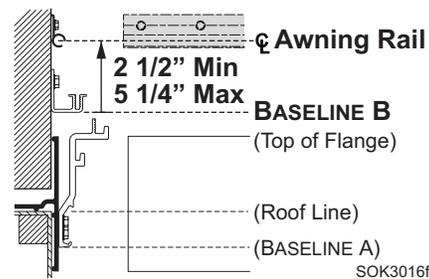

Figure 6. Awning Rail Position.
3. Measure up from BASELINE B. The acceptable range is shown in Figure 6.